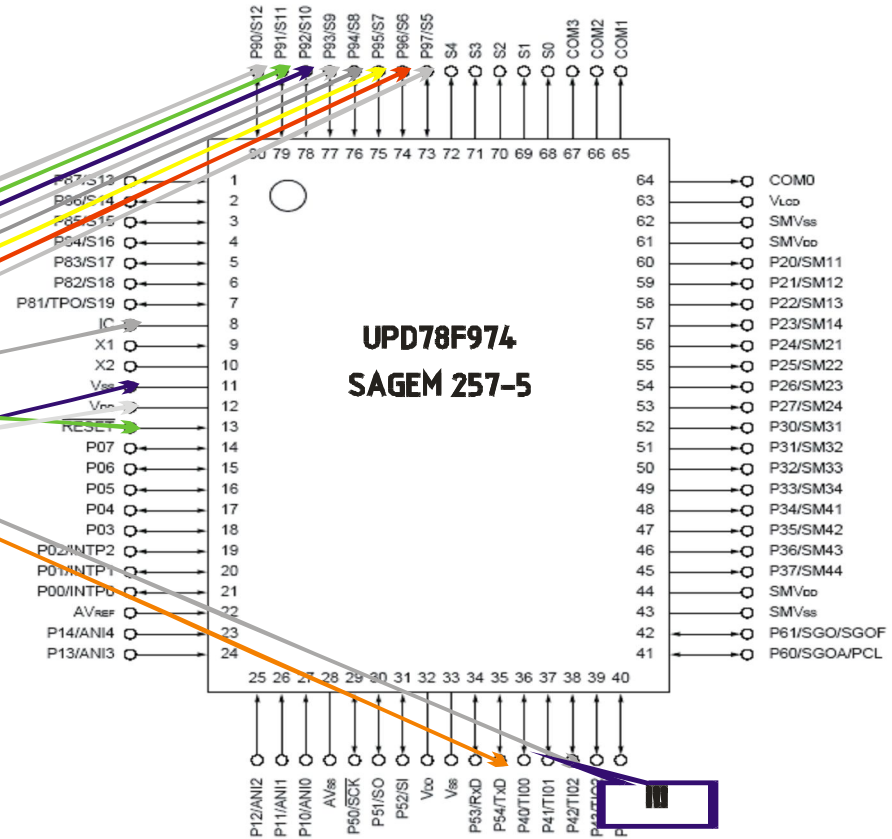

Figure 5
- Connect the dashboard to uPD78 EEPROM programmer. Check hardware connection before attach serial port cable and power connection wires (see Figures 5, 6, 7)